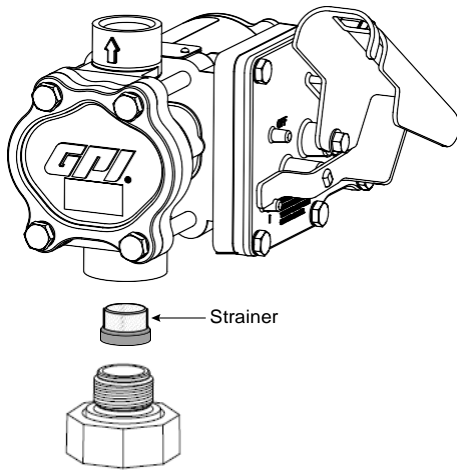

Figure 10
- Strainer clogged or defective. Inspect and clean as required (See Figure 10).